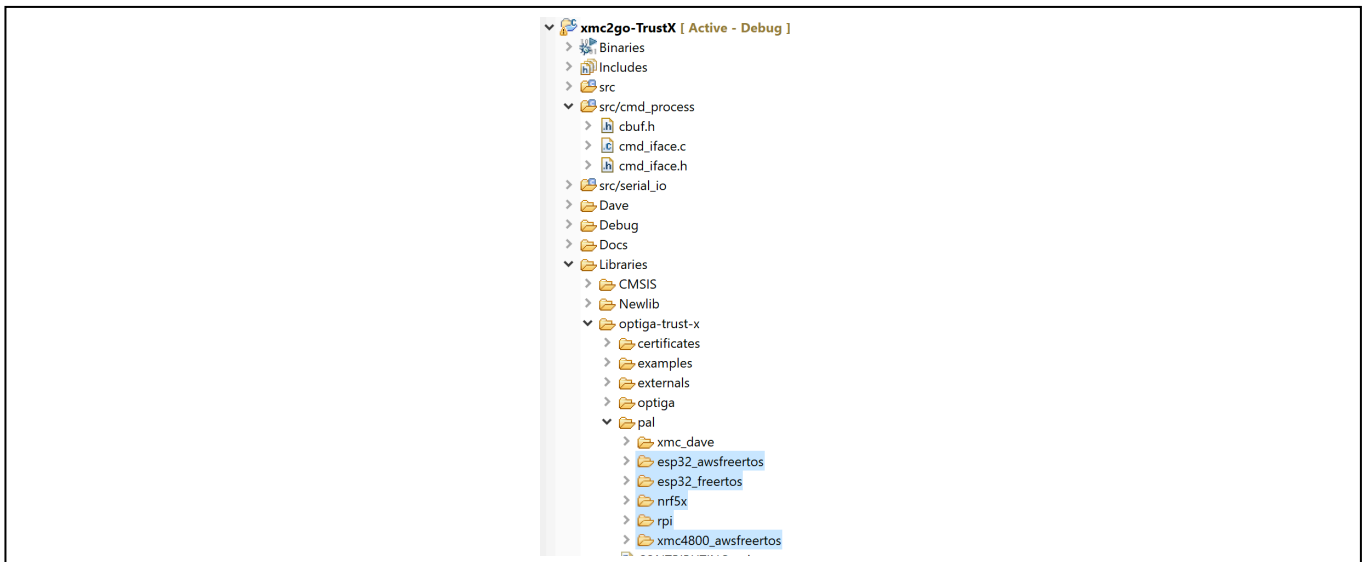

Figure 18 **Selecting XMC1100 PAL**
- Select all directories except for xmc_dave (Ctrl + Mouse Click on each), as shown in **Figure 18**.